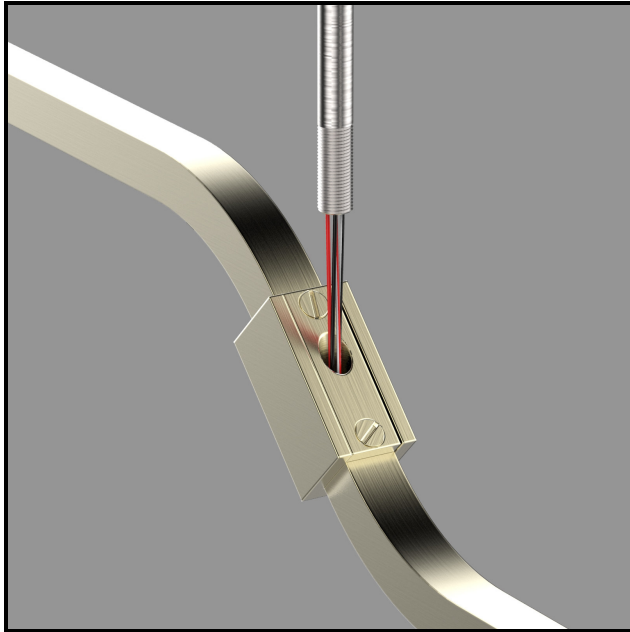

Figure 3
- Carefully feed the fixture wiring up through the steel tube. (Figure 3)